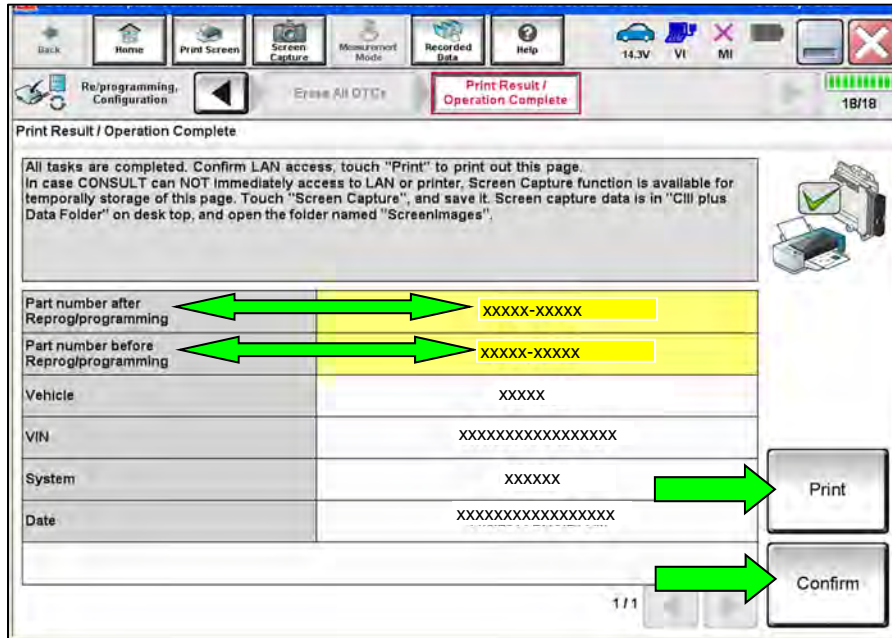

Figure 261
260. When the entire reprogramming process is complete, the screen in Figure 261 on page 130 will display.
- 262. Print a copy of this screen (Figure 261) and attach it to the repair order.